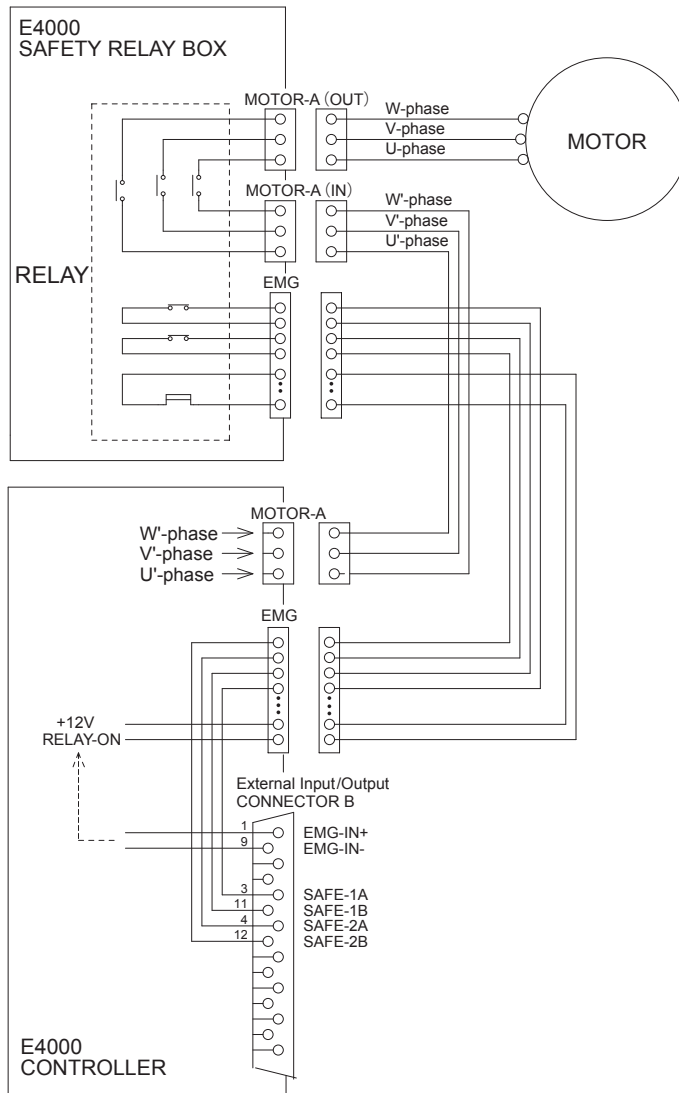

Fig. 9
Refer to "16 - 2 - (1) Details of External Input / Output Connector B Signals " section of the CONTROLLER Operation Manual and Fig. 9.